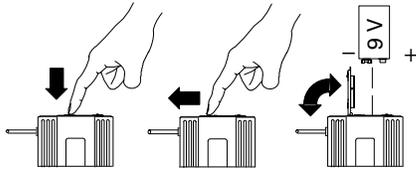

FIGURE 4. BATTERY INSTALLATION
- AXB1, AXB1G:** Press down on the OPEN side of the battery compartment cover, slide it back and flip it open, as shown in Figure 4.